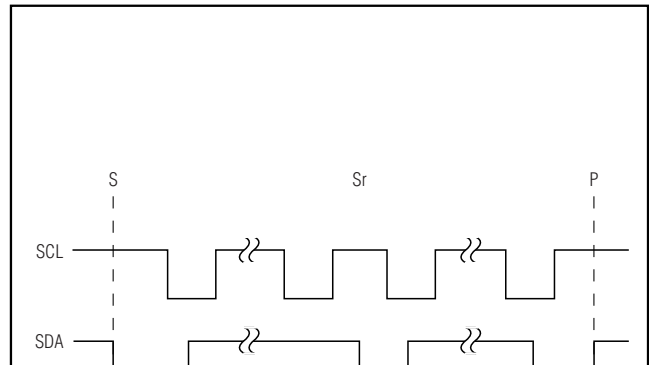

Figure 2. START/STOP Conditions
A master device initiates communication by issuing a START condition (S), a high-to-low transition on SDA with SCL high (Figure 2). The master terminates transmission by a STOP condition (P) (see the *Acknowledge Bit (ACK) and Not-Acknowledge Bit (NACK)* section). A STOP condition is a low-to-high transition on SDA while SCL is high (Figure 2). The STOP condition frees the bus. If a repeated START condition (Sr) is generated instead of a STOP condition, the bus remains active. When a STOP condition or incorrect address is detected, the MAX7472/MAX7473 then ignore all communication on the I²C bus until the next START or REPEATED START condition, minimizing digital noise and feedthrough.